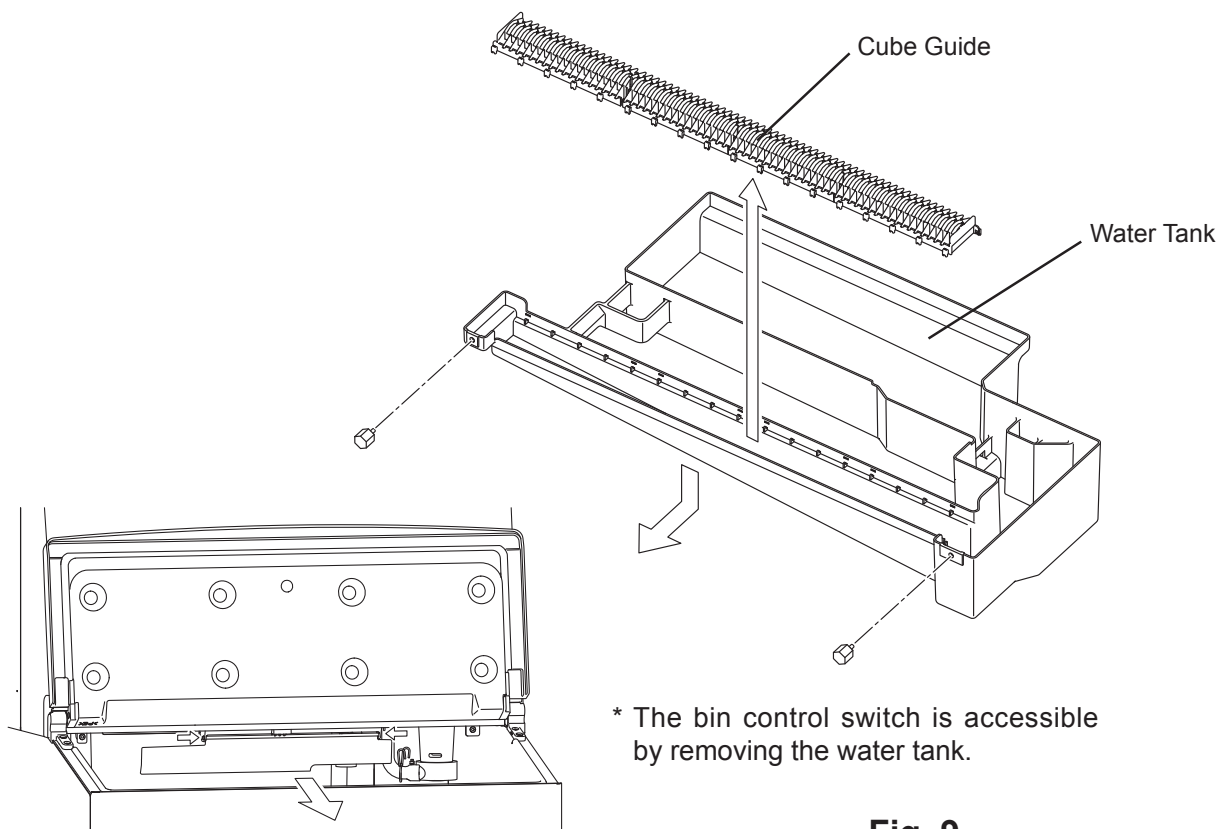

Fig. 9
15) Pull the cube guides (quantity varies depending on model) upward to remove them from the water tank. They are snapped in place. See Fig. 9.